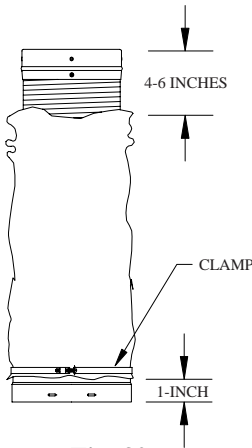

Fig. 30
**STEP ONE:** Slip the proper size of the Two-Ply Insulation Sleeve over the flex pipe, and position it approximately 1" up from the bottom. (See Figure 30) Install the bottom insulation sleeve clamp, and push the top of the sleeve down 4" to 6". Position clamps so that the nut and bolt connections are pointing towards the corner of a rectangular chimney.
**STEP ONE:** Slip the appropriate sized insulation sleeve over the first section of flex-pipe and position as shown in Figure 30. Lower the first section down the chimney approximately  $\frac{3}{4}$  of its length, and hold in place.